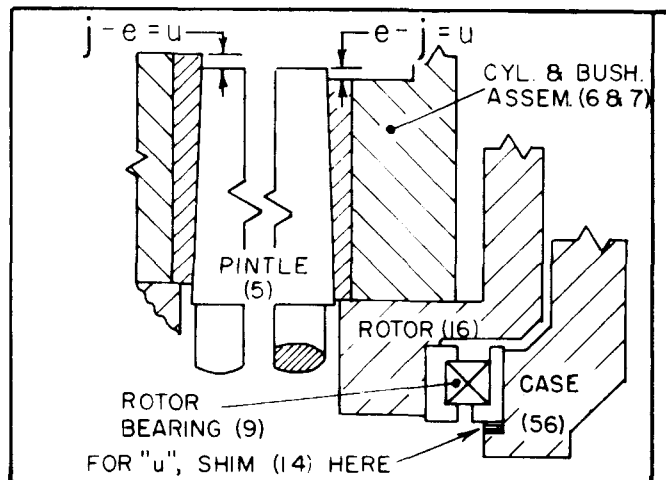

FIGURE 7 OFF-TIGHT POSITION
2. ROTOR If removed, press spacers (17 & 17A) and thrust rings (18) in evenly. If new rotor bearing (9) is used, install bearing on rotor hub, thrust side of outer race faces away from hub shoulder (on size 60s — install original shims (14) in case and press outer race of roller bearing, with thrust flange down, into case; install inner race on rotor hub). Lubricate rotor bearing with hydraulic fluid. Replace original rotor bearing shims (14) and place rotor assembly in case. Make sure bearing turns freely.
3. CYLINDER Lubricate mating surfaces on pintle (5) and cylinder bushing (7). Lower cylinder without pistons (8) on pintle, do not scratch bushing on pintle edges. With cylinder resting on rotor (16), be sure cylinder turns freely. Use dimension given in V-A-j. See figure 7. If dimension "e" recorded in IX-D-1 is greater than "j", subtract "j" from "e" (e minus j). The difference should equal pintle projection beyond the cylinder bushing face. — If "e" is less than "j", subtract "e" from "j" (j minus e). The difference should equal the cylinder bushing projection beyond pintle. — Add, or remove rotor bearing shims (14) to obtain correct off tight position of cylinder on pintle. If new rear driveshaft bearing (12) is used, install in pintle with thrust side of outer race facing away from open end of case. Lubricate bearing. Remove cylinder and rotor from case. Place pistons (8) in cylinder, place cylinder in rotor. Center cylinder over pintle bore in rotor and lower assembly carefully into the case over the pintle.